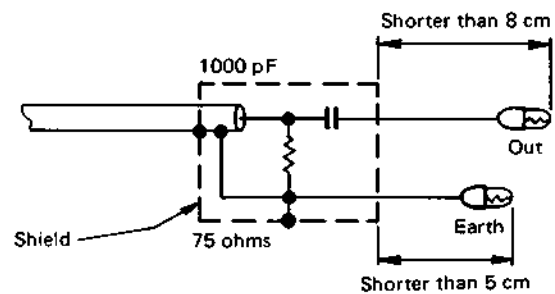

Fig. 5-35 Sweeper probe
4. Sweeper probe (sweep signal supply cable) as shown in Fig. 5-35.